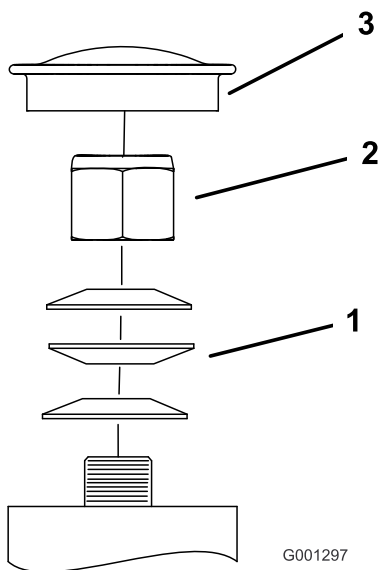

Figure 52
3. Remove the dust cap from the caster and tighten the locknut (Figure 52).
4. Tighten the locknut until the spring washers are flat, and then back off a 1/4 turn to properly set the preload on the bearings (Figure 52).
Important: Make sure that the spring washers are installed correctly as shown in Figure 52.
5. Install the dust cap (Figure 52).